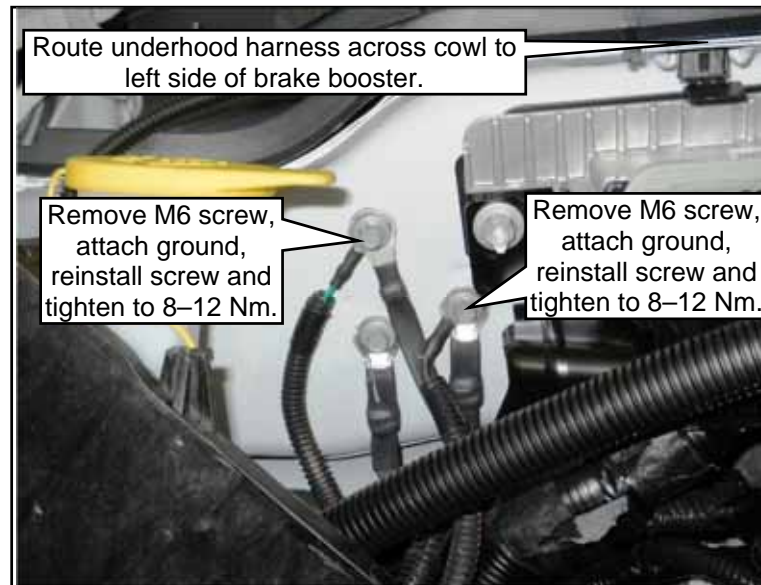

Figure 16.1
8. Attach the two ground connections (breakout from main harness with CAN bus harness connection) to the OEM ground attachments next to the PCM. They are the fuel pump and SRM grounds. Connect the underhood harness ground eyelets to the existing Ford ground location on right side next to the PCM. **Figure 16.1.**